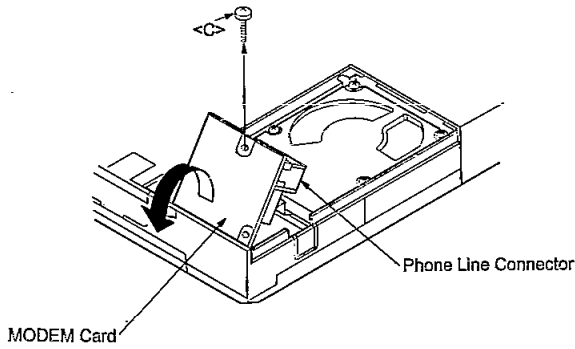

Figure 7
3. Remove the screw on the MODEM and carefully raise the MODEM. (Refer to Figure 7)